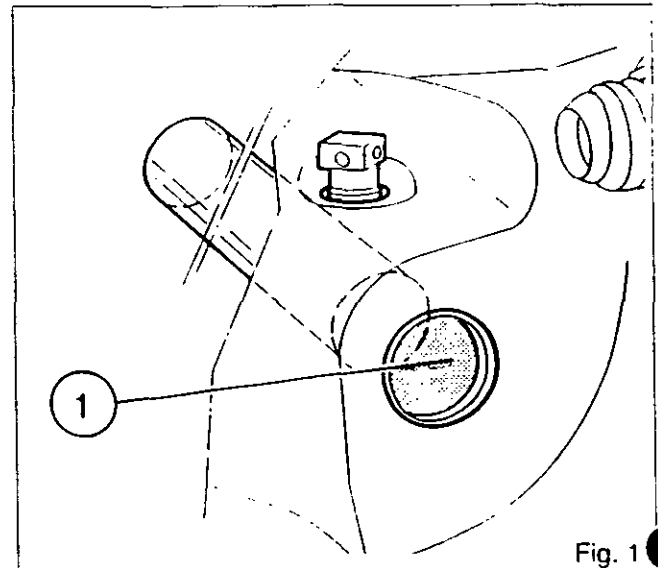

Fig. 1
8. Extract the insert (1) (Fig. 1).